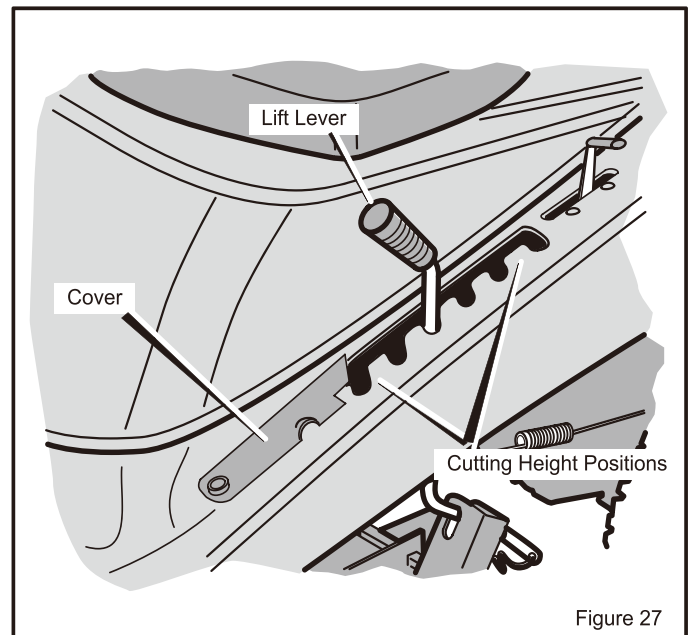

Figure 27
7. Raise the **lift lever** from the LEVEL ADJUSTMENT position to a CUTTING HEIGHT position (Figure 27).